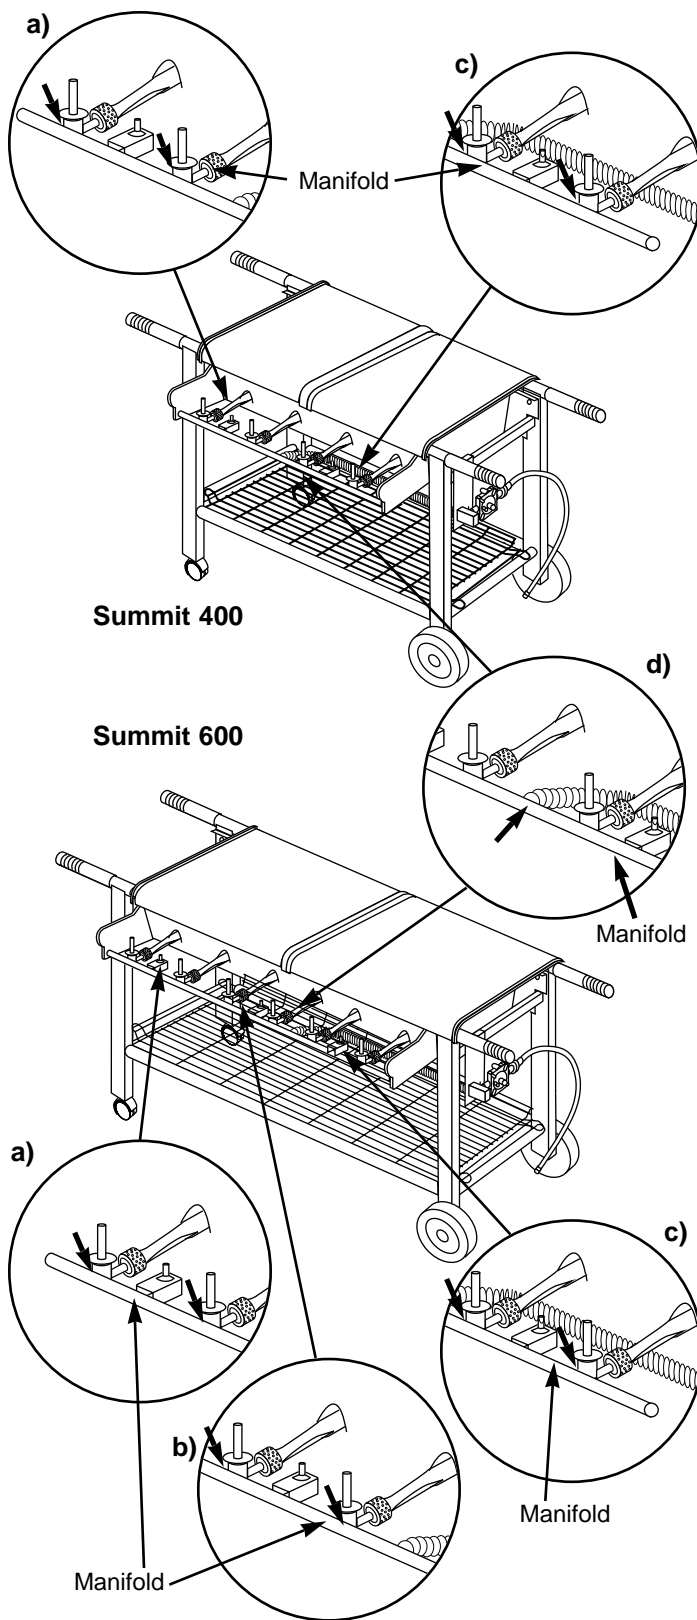

Figure 20
- Left valves to manifold connection. Figure 20 (a).
- Center valves to manifold connection. Figure 20 (b).
- Right valves to manifold connection. Figure 20 (c).
- Hose to manifold connection. Figure 20 (d)